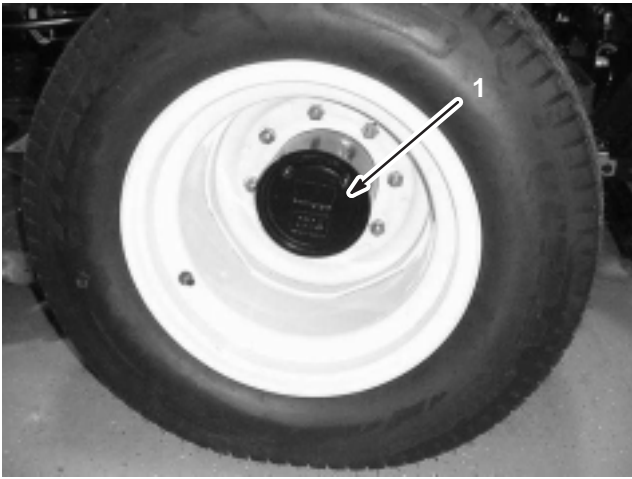
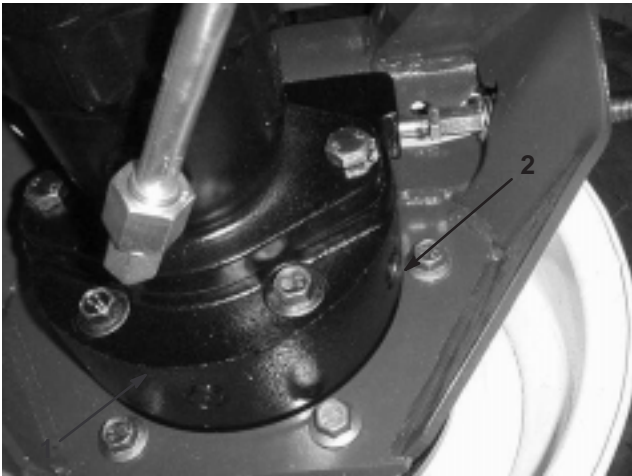

Figure 9
Figure 10
1. With the machine on a level surface, position the wheel so that the check/drain plug (Fig. 9) is at either the 2 or 10 o'clock position.
2. Remove the plug on the planetary (Fig. 9) and the check plug on the back side of the brake (Fig. 10). Oil should be at the bottom of the check plug hole on front and back side of the brake.